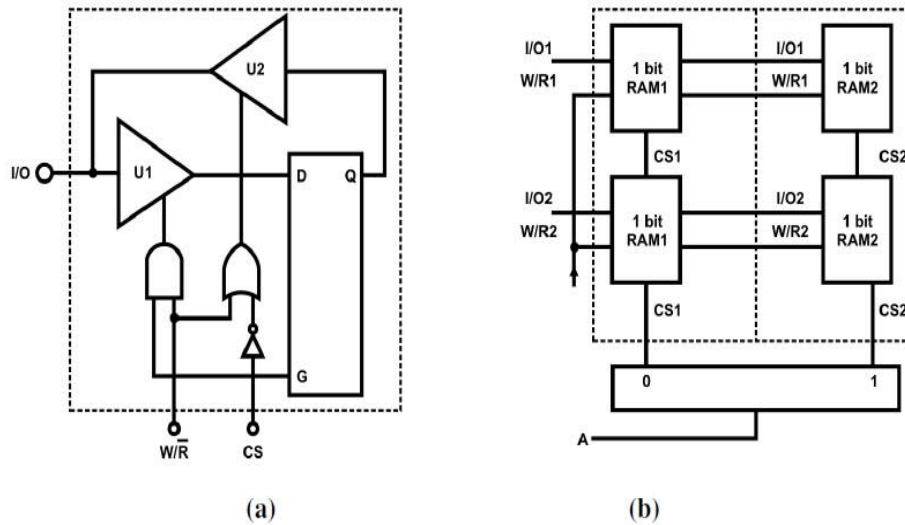

Figure 1: (a) One bit memory using a flip flop. (b) Two-bit memory with 1x2 decoder.
- 1) In the RAM circuit of Figure 1 (a), the input and output are not separated. There are two control terminals: one is the R/W terminal (R for READ or OUTPUT, W for WRITE or INPUT) and the other one is the ENABLE terminal.
- Figure 1 (b) shows another connection that will increase the RAM capacity. When CS1=1, RAM1 I/O1 and I/O2 are selected. Address line A is used to select between RAM1 and RAM2. Since there is only one address line, we can only select from 2 RAMs. In Figure 1 (b), each CS can only select a 2-bit RAM, so the total capacity is 2x2.
Figure (2): Implementation of the two-bit memory presented in Figure 1 (a).